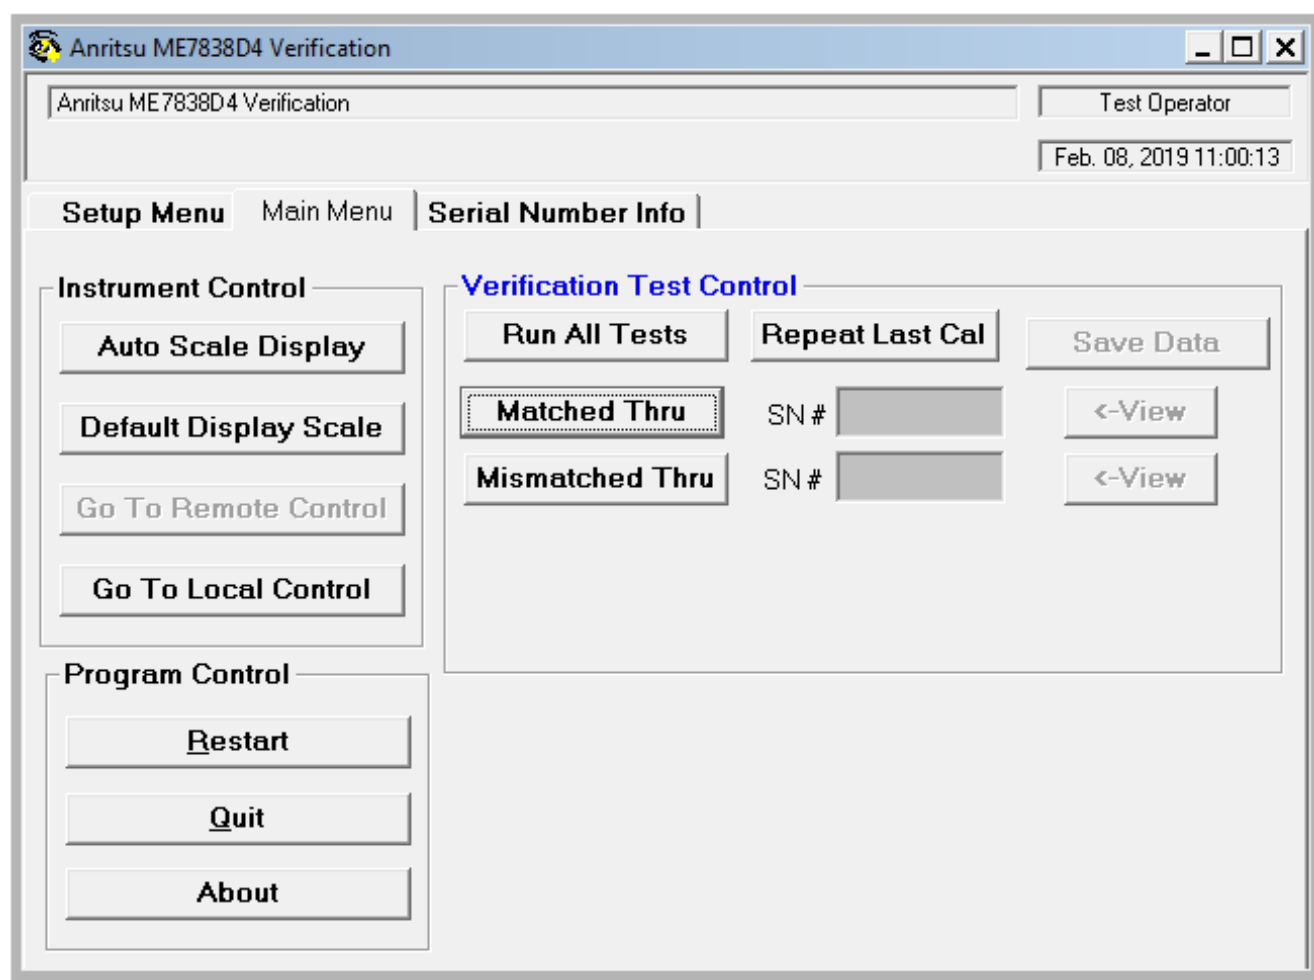

Figure 3-66. ME7838D4 Application Interface – Main Menu Tab
- The Main Menu tab display is described in Section 3-9, “Application Interface – Main Menu Tab” on page 3-26 and is shown in Figure 3-66.
This command button runs both the Matched Thru and Mismatched Thru tests. Program execution starts with Section 3-20 “Matched Thru Tests – Port 3/Port 4” on page 3-53 and then continues with Section 3-21 “Mismatched Thru Tests – Port 3/Port 4” on page 3-56. When both tests are completed, program execution returns to the Main Menu tab shown in Figure 3-66 on page 3-48.
This command button re-calibrates the VNA according to the CURRENT calibration. This provides a way to recalibrate the VNA without having to reset the program parameters in case the original calibration was flawed for some reason. When the calibration sequence is complete, program execution continues to the Main Menu tab shown in Figure 3-66 on page 3-48.